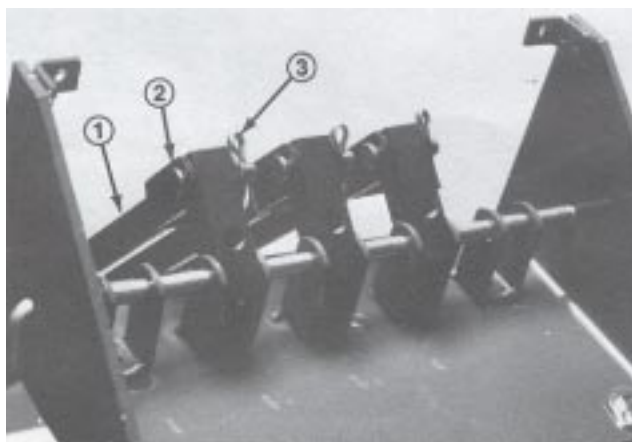

Figure 7
1. Secure upper control linkage tubes to pivot blocks with clevis pins and cotter pins (Fig. 7). Coat pins with #2 gun grease.